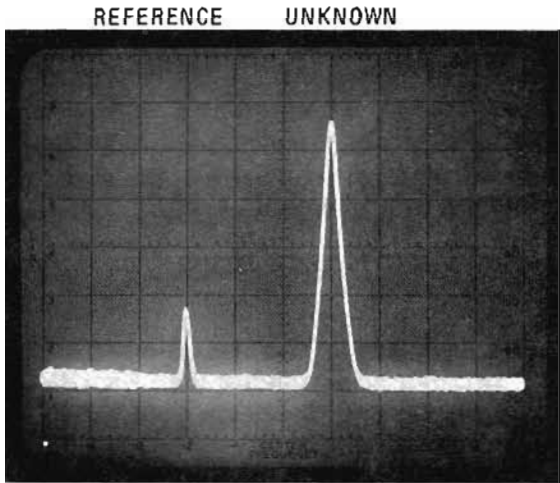

Figure 3-4. Using a Reference Signal to Measure An Unknown Frequency
**3-35.** Since the frequency scan is very linear, absolute frequency can be determined by comparing the unknown signal to a known reference frequency. (The HP 8406A Comb Generator provides a comb of reference signals spaced at 100, 10 and 1 MHz for reference purposes). The reference and unknown signals are simultaneously applied to the analyzer; both frequencies can then be read directly from the CRT. A typical example is shown in Figure 3-4; the reference frequency was derived from the HP 8406A. The unknown frequency was read from the analyzer dial as about 380 MHz. The comb reference is known to be 385 MHz ± 0.01% (±38.5 kHz) and the scan width is 50 kHz per